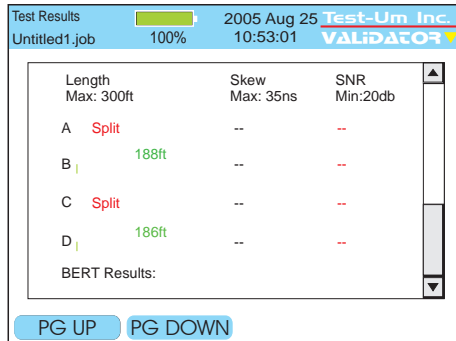

Figure 4.6 Test Results-Split
**Split Pair** - The cable has an error in the twisting of the wires together within the cable. Cables are generally made up of 8 wires twisted together in 4 pairs. A cable can be wired with correct continuity, but not with correct pairing. If the only error is a split pair error, the cable has correct continuity. If the Validator main unit is unable to link to its remote due to another error, such as a short, A Link Test Error Message displays "Unable to Measure SNR." Press OK to view the wiremap results. (See Figure 4.6)